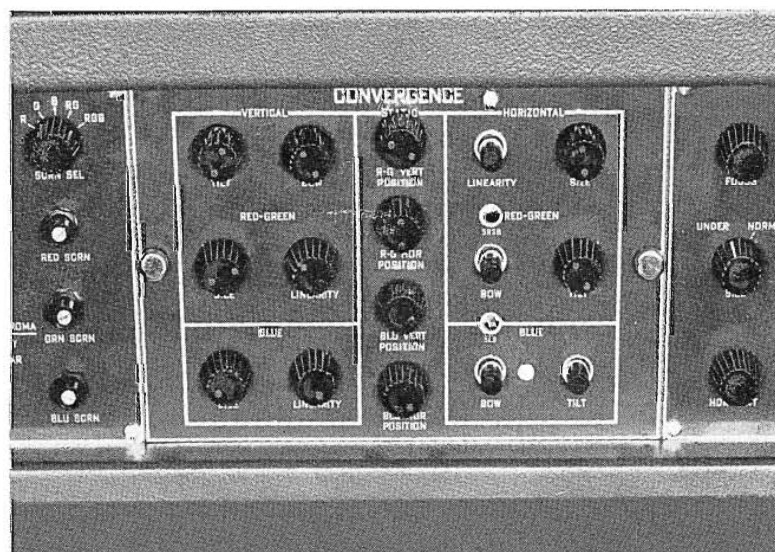

FIG. 15. Convergence control panel.
In the TM-21, unusually good performance with respect to convergence is made possible by the conservative design of the deflection circuits, which provide good waveforms to start with. As indicated in Fig. 14, both the output tubes and the output transformers serve as signal sources for the convergence circuits. Stability and ease of operation were given strong emphasis in the design of the convergence section of the TM-21. An examination of the convergence control panel, shown in Fig. 15, will show how the operation of this section of the monitor has been greatly simplified. Two features of the convergence circuit design which particularly facilitate a straightforward set-up procedure are: (1) the controls are arranged so that the red and green rasters may be adjusted as a pair, relative to each other, after which the blue raster may be brought into registration relative to the red-green pair, and (2) every control has been made to direct some type of movement in either the horizontal or vertical direction, not along the 120-degree axes that prove to be quite confusing in conventional convergence arrangements.
The large number of convergence controls needed for a tricolor tube (16 in the case of the TM-21) need not seem too formidable if each one performs some readily-understood function. Those used in the TM-21 are so designated and arranged on the control panel that it is easy to visualize them as trimming adjustments for the deflection circuits. There are only five basic types of controls (see Fig. 15) and these are readily understood. The *position* controls are only trim adjustments for the centering function, while *size* and *linearity* carry the same connotation as in conventional deflection systems. The *tilt* and *bow* controls produce these effects on the lines of the grating pattern commonly used to facilitate convergence adjustments. The *bow* control affects the curvature of the lines, while the *tilt* controls are used to make them parallel.